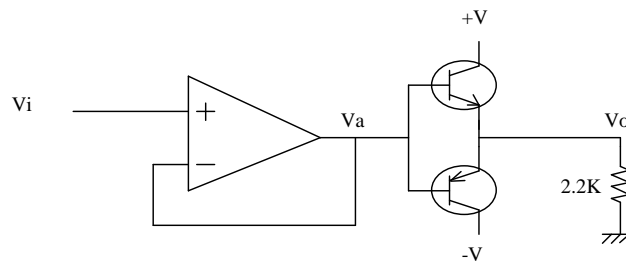
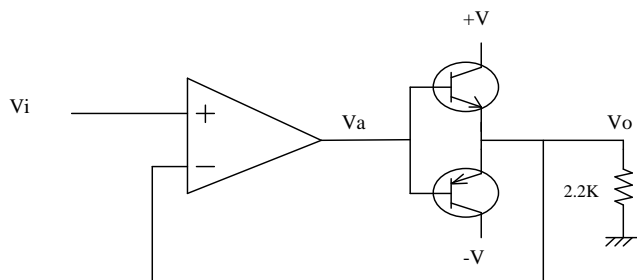

Figure 1
Figure 2
Next, make a sketch of the traces of a proto-board (some people refer to these as breadboards, even though they are different things). There are many resources in books and on the web for you to refer to, if you have forgotten how a proto-board is arranged. Also, make another sketch of how you will place and connect the components of the circuit seen in figure 1. Be sure your sketch includes the placement of the components on the proto-board. The sketch does not have to be perfect, but should be a reasonable attempt. This is just to get you thinking about how you will arrange the circuit on the proto-board. This is also worth 5 points.
Figure 1 shows a simple unity gain amplifier with a push-pull (Class B) amplifier stage that is often used in the output stages of stereos and servo amplifiers. Due to the  $V_{BE}$  of the silicon transistors, this circuit has a dead-band between about -0.6v and +0.6v. This 'cross-over' distortion can be nearly eliminated by closing the feedback loop around the push-pull stage as the circuit shown in Figure 2.
Construct the circuit shown in Figure 1 using a LM741 op-amp and 2N3904 (NPN) and 2N3906 (PNP) transistor. The node with the arrow is the emitter (E), and the top transistor in Figures 1 and 2 is the NPN transistor. Their pin-outs are shown in Figure 3. Note the positions of the notches and shapes of the elements.
Modify the circuit so that the feedback loop is closed around the push-pull stage (as in Figure 2). Input a ~1 kHz sinewave to the circuit and observe the waveform at  $V_a$  and  $V_o$ . Include these waveforms in the report. Is this system linear from  $V_i$  to  $V_a$ ? Is this system linear from  $V_i$  to  $V_o$ ? Now use the oscilloscope to X-Y plot the transfer characteristic from  $V_i$  to  $V_a$  and from  $V_i$  to  $V_o$ . Use a 100 Hz sinewave input for  $V_i$  viewed on Channel 1 (X), and the other signal on Channel 2 (Y).